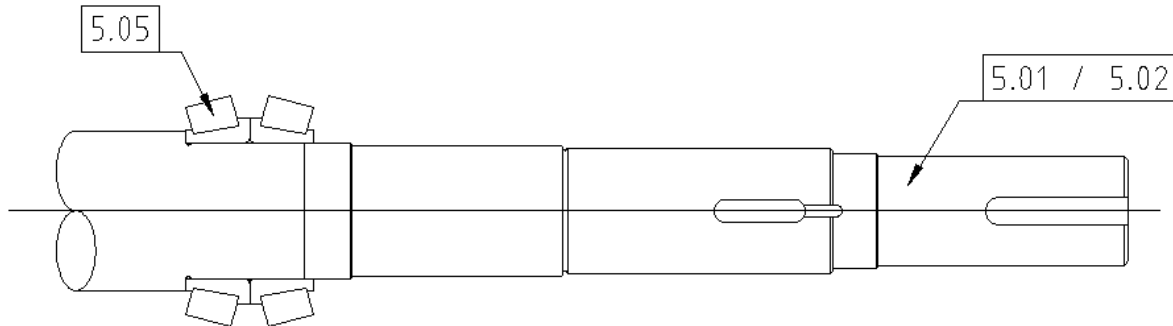

Fig 34 Installation of Bearing cones onto shafts
- Install bearing cones (5.05) to shafts (5.01 and 5.02) ensuring they locate against the shaft shoulder. The cones are installed as shown in Fig 34.